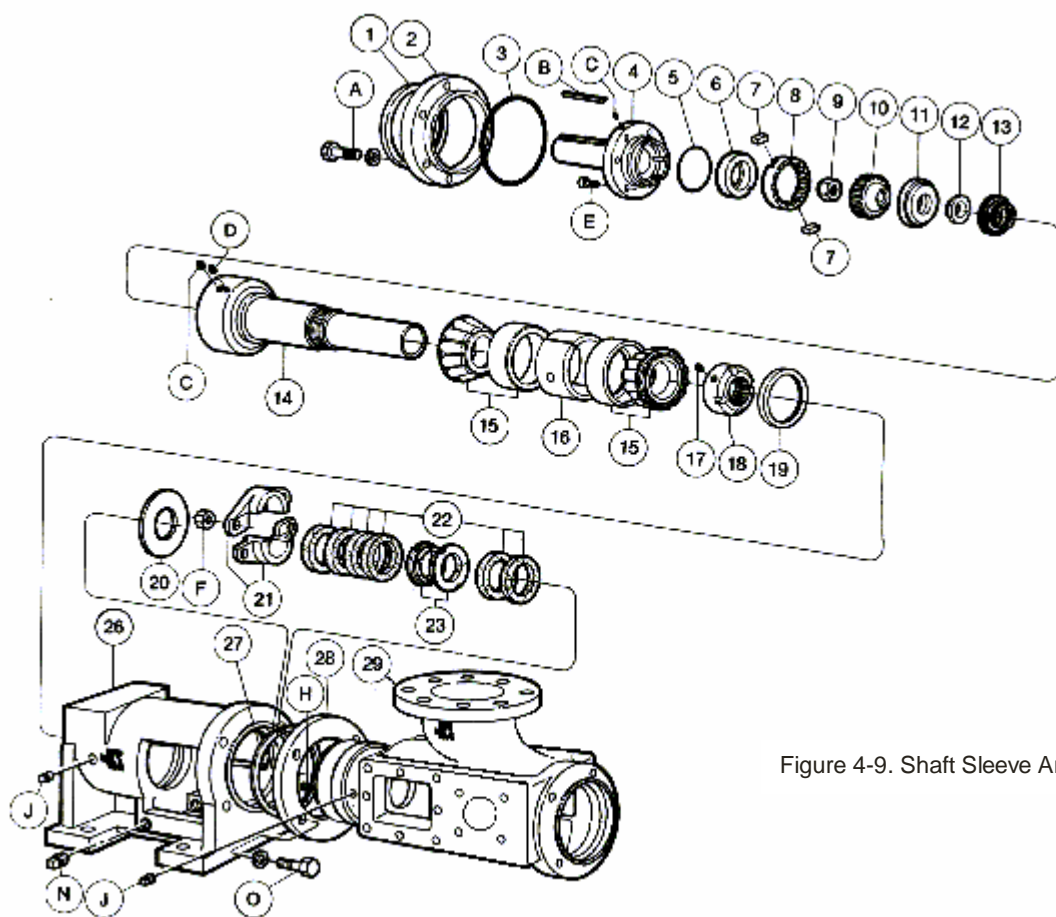
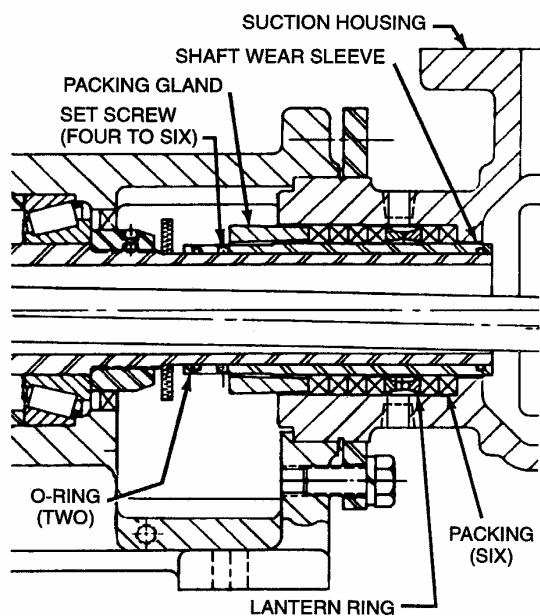

Figure 4-9. Shaft Sleeve Arrangement
Figure 4-10. Pump with Shaft Wear Sleeve
Some pumps have a sleeve installed on the drive shaft to receive any possible wear caused by the packing. See sleeve kit (43, figure 4-9), and the cross section illustration (figure 4-10).
4-47. Disassembly (see figure 4-9). After separation of bearing housing (26) from suction housing (29A), and removal of packing gland and packings, remove sleeve as follows:
1. Loosen four to six set screws (U) in sleeve (45), and pull sleeve off shaft (14).
2. Remove two O-rings (44) from interior of sleeve.